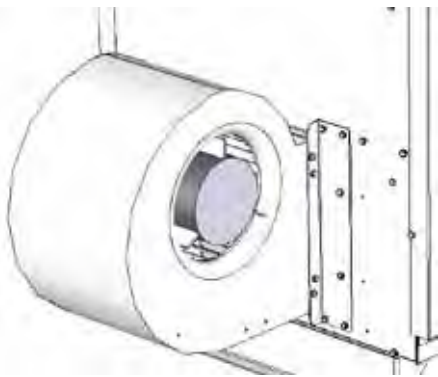

Fig. 12
2. Mount blower with brackets installed on the furnace as shown in Fig. 12. Each side will require 6 Tek screws.